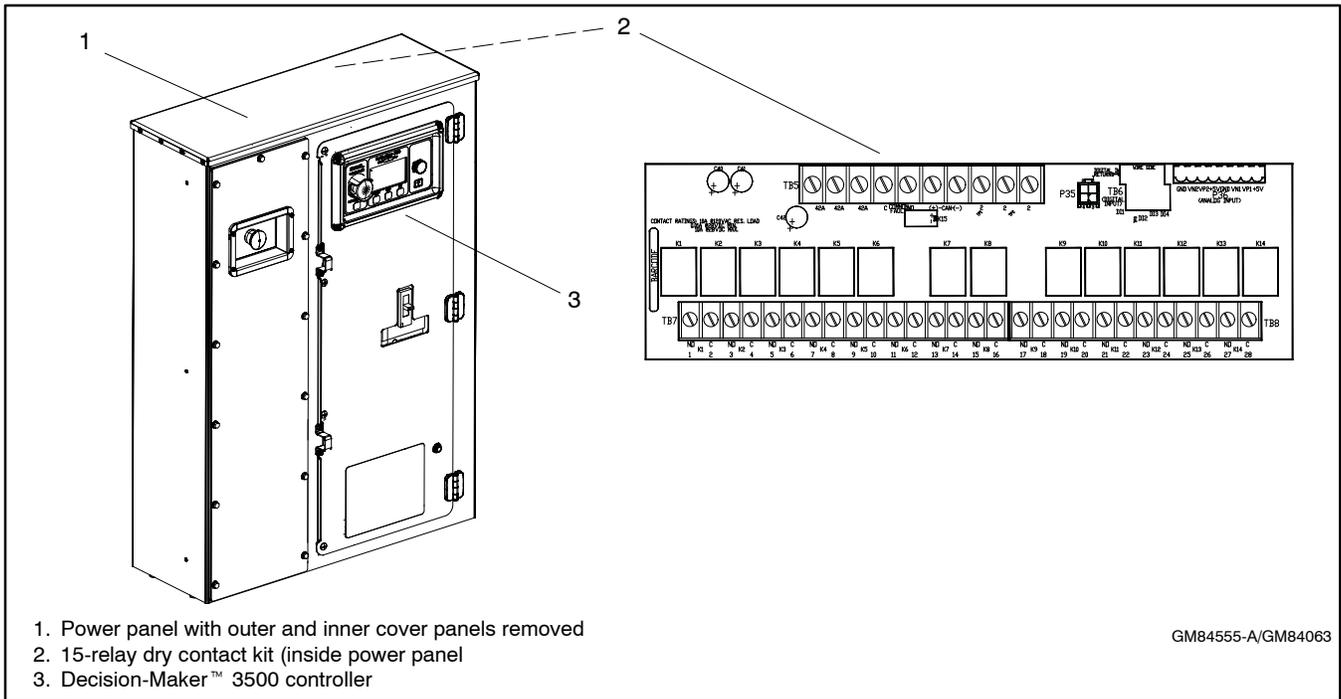

Figure 6-3 Power Panel with Optional 15-Relay Dry Contact Kit
4. Remove the controller by removing four screws. See Figure 6-3 for location of the relay board.